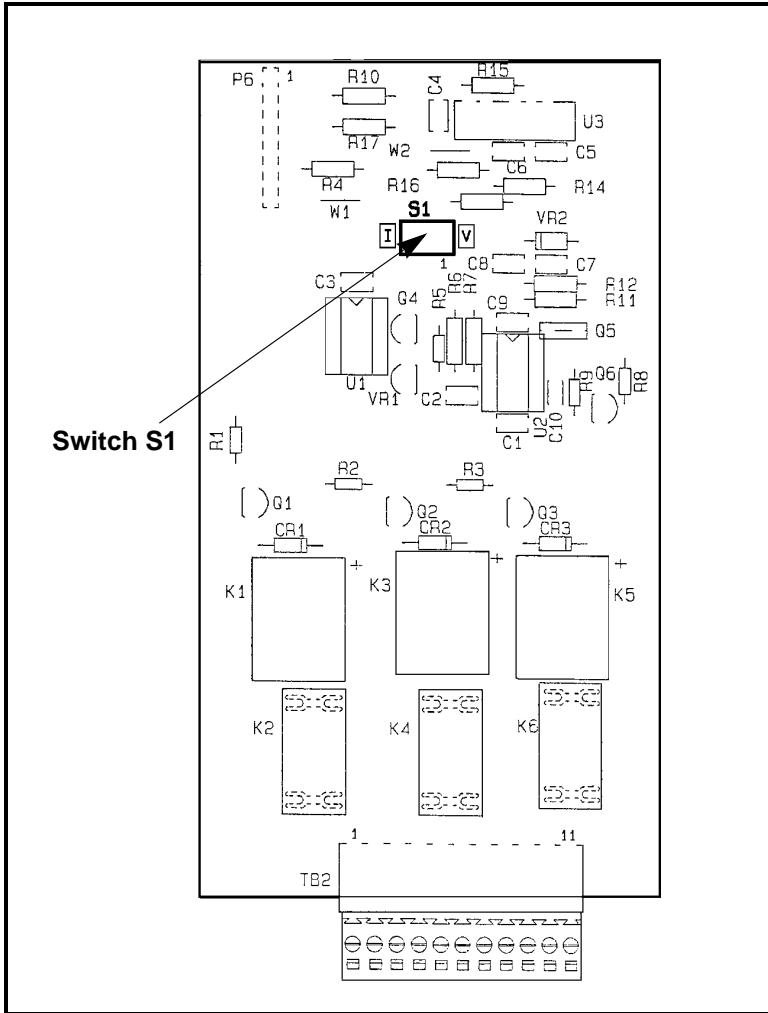

Figure 6: S1 Location on 703-1175 Output Board
The Series 35 has one recorder output, which is isolated. This output provides either a current or voltage signal, which is set using switch S1 on the output circuit board (see Figure 6 on page 21 for the location of S1).
3. Locate switch S1 on the output circuit board (see Figure 6 on page 21).